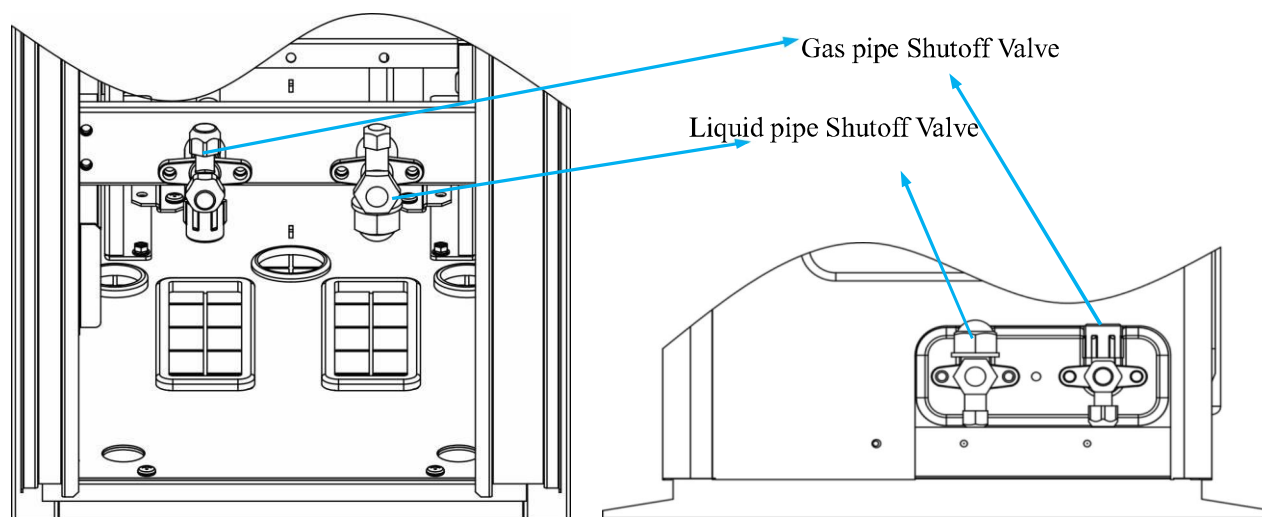

Figure 2-7 Schematic of 20.5kW Indoor and Outdoor Unit Shutoff Valve Location
1. The piping connections for both the 20.5kW indoor unit and the outdoor unit are male threaded fittings, and the location of the shut-off valves for the indoor and outdoor units is shown in Figure 2-7. 20.5kW will be equipped with a standard 5m copper pipe, field installation, the indoor and outdoor unit connecting pipe corresponding to the indoor and outdoor unit connected to the corresponding pipe interface can be. If the length of the pipe exceeds the standard piping length of 5m, it is necessary to use the welding method to connect the additional copper pipe.